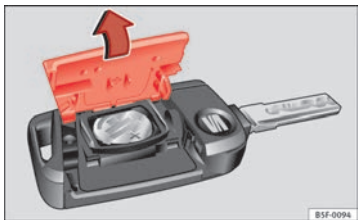

Fig. 46 Vehicle key: opening the battery compartment
- Remove the cover from the back of the vehicle key ⇒ Fig. 46 in the direction of the arrow ⇒ ①.
- Fit the cover as shown ⇒ Fig. 46, pressing it onto the vehicle key casing in the opposite direction to that shown by the arrow until it clicks into place.